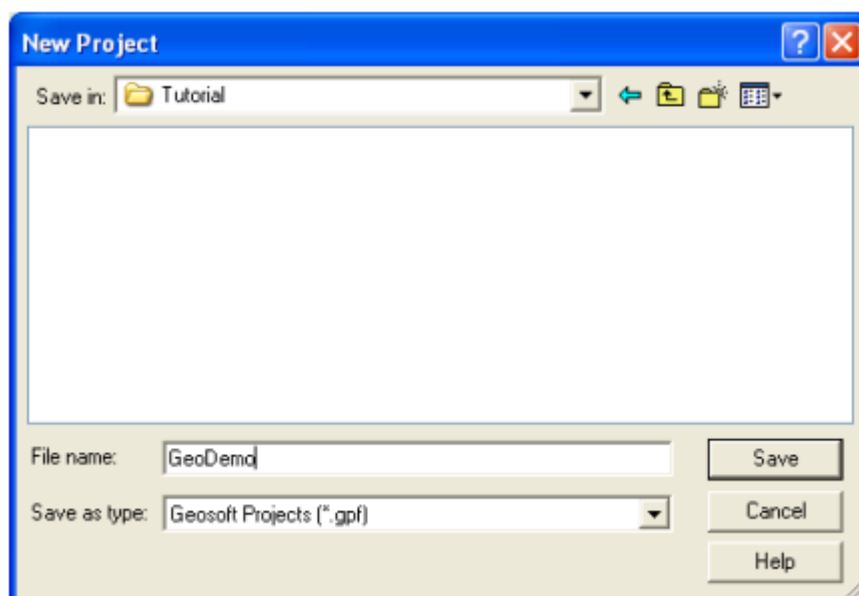

Figure 1.58 – Oasis montaj panel for a new project
2. On the *File* menu, select *Project* and then select New. The *New Project* dialog is displayed, fig. 1.58 (all figures are used from the Oasis montaj documentation).